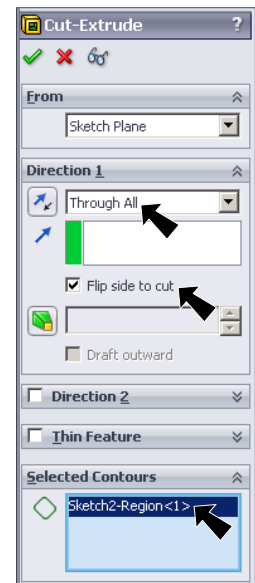
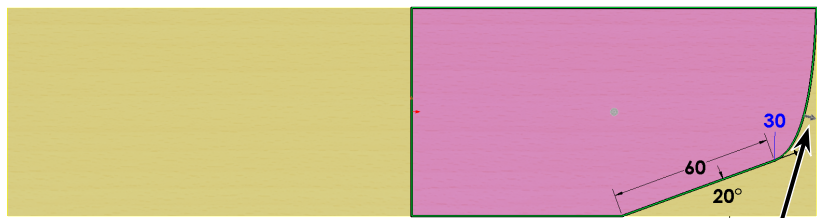

Fig. 8
Fig. 9
- under Direction1, **Fig. 8**
click the **wing contour** in graphics area, **Fig. 9**.
The Direction arrow should point towards area to be cut away, **Fig. 9**. If arrow is pointing in wrong direction, uncheck **Flip side to cut**, **Fig. 8**.